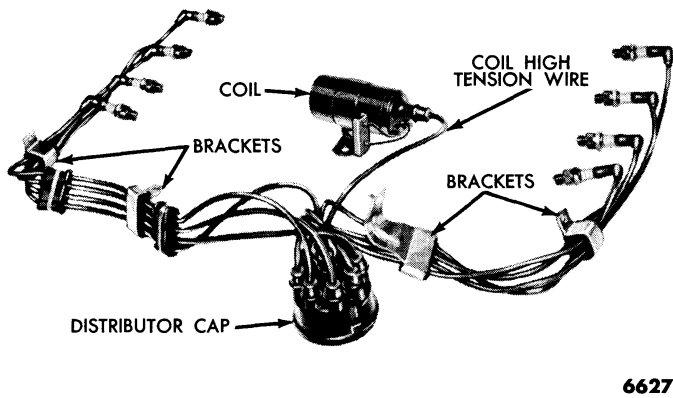

Fig. 7—Ignition Wire Installation—8-Cylinder Engine
(2) **REPLACEMENT—8-CYLINDER ENGINE.** A spark plug wire set is available for service. The ignition wire installation is shown in fig. 7.
(b) **INSTALLATION.** Install new wires in the rubber insulators. Be sure the wires are positioned correctly in the insulator and the insulator is in the correct location with relation to the bracket mounting points on the engine (fig. 7).